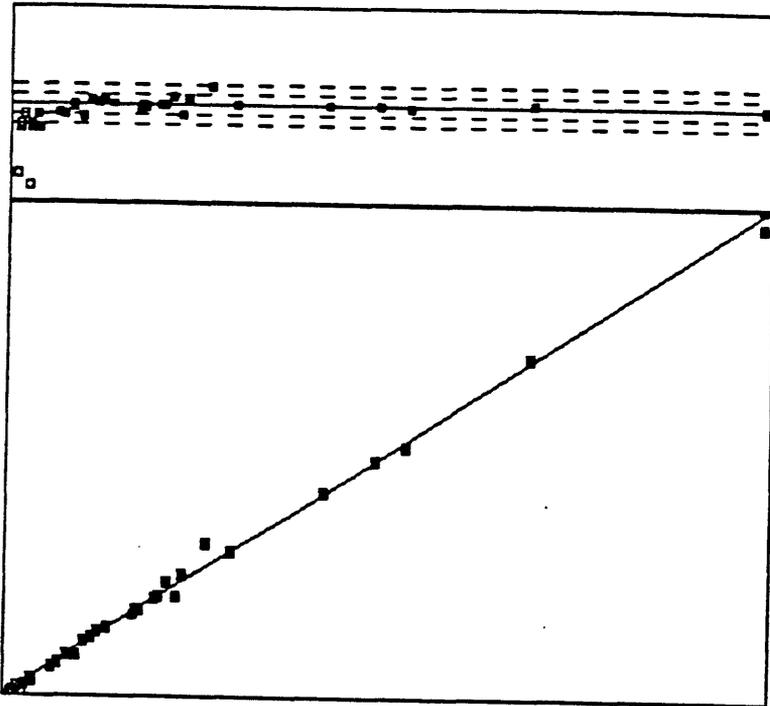

Figure 5. Example of a calibration curve established for Sr.
- 1) Inspect data for each analysis by pressing "Enter" when the ">" is adjacent to the *Inspect data option*. Data for the selected standard include: A) Sample name, B) Accepted and measured concentrations plotted on the "X" and "Y" coordinates respectively, C) Percent deviation of measured concentration from accepted value; this is displayed graphically on the horizontal deviation graph (fig. 5). The solid horizontal line in the middle of the graph represents a value where both measured and accepted values are equal. The two dashed horizontal lines above the solid line represent +10% and +20% or greater deviation of the measured value from the accepted value. The two dashed lines below the solid line show where measured analyses differed from accepted values by -10% and -20% or greater D) And 2 σ standard deviation are displayed on the screen. Select subsequent analyses by pressing the "↑ ↓" keys. An analysis may be omitted from the fit by pressing "-" when the standard is highlighted on the graphic.
Choose a regression type and press "Enter". The "Filter ?" query will be displayed (filters are described in section 5.6). Press "Enter" and the regression is displayed in addition to the regression menu options (fig. 5). If the filter eliminates too many points to perform the calculation, an error results and the program returns to the first menu of the calibration routine (Solution-- lower the filter to a level, the absolute value of which, will contain enough data to perform the calculation). Return to the calculation by selecting the "Regression" option.